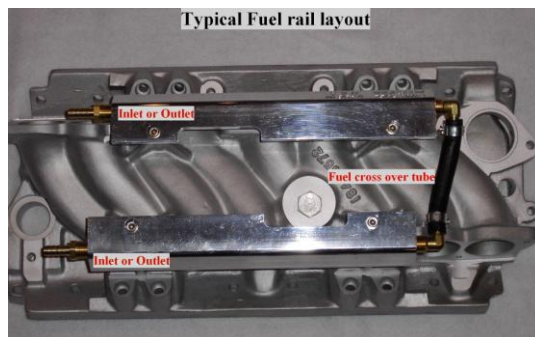

Figure 9
5. It is easier to install your fuel line hose to the fuel rail at this time. Referring to Figure 9, determine a suitable mounting location for the secondary fuel filter and fuel pressure regulator with gauge. Allowing a little extra length, cut the 3/8" supply and 3/8" return line to reach from the fuel rail to their respective locations.
11. Mount a fuel pressure regulator. The smaller vacuum port on the rear of the plenum connects to the fuel regulator. Keep in mind, fuel pressure tests will be made before the regulator. (See figure 9)
14. Locate 4 manifold runners, 8 manifold runner gaskets and (24) ¼-20x1 allen head cap screws.